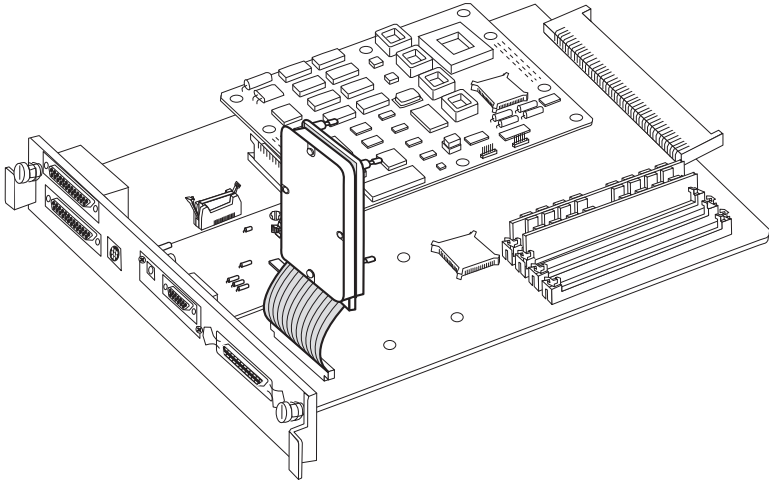

Fig. 8.26 *Install the New Hard Disk*
5. Hold the new disk vertically (connector-side down with the bracket facing the SIMMs) and connect it to the ribbon cable (fig. 8.26). Inspect the connection from all four sides to **make sure each pin is seated in the connector** (no pins are exposed).